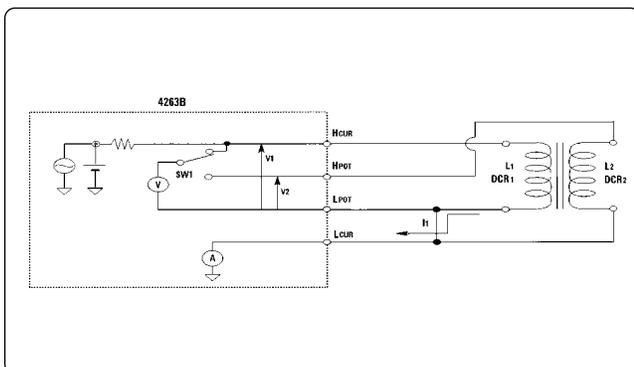

Figure 1. Agilent 4263B block diagram for L, M, and DCR measurement
The 4263B LCR meter is a low price instrument which measures the fundamental parameters of LCR components with speeds as fast as 25ms, at frequencies of 100, 120, 1k, 10k and 100kHz. In addition, with option 001, the 4263B measures turns ratio (N), mutual inductance (M) and dc resistance (DCR) which are required for transformer measurement. Figure 1 shows a 4263B simple block diagram for L, M, and DCR measurement.